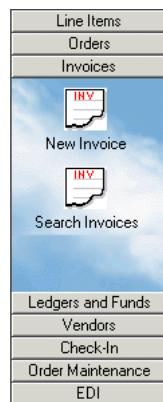
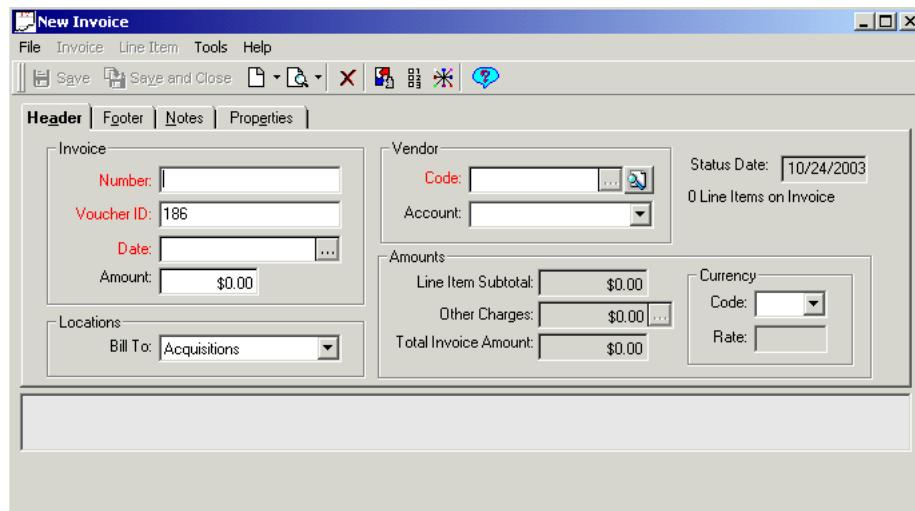
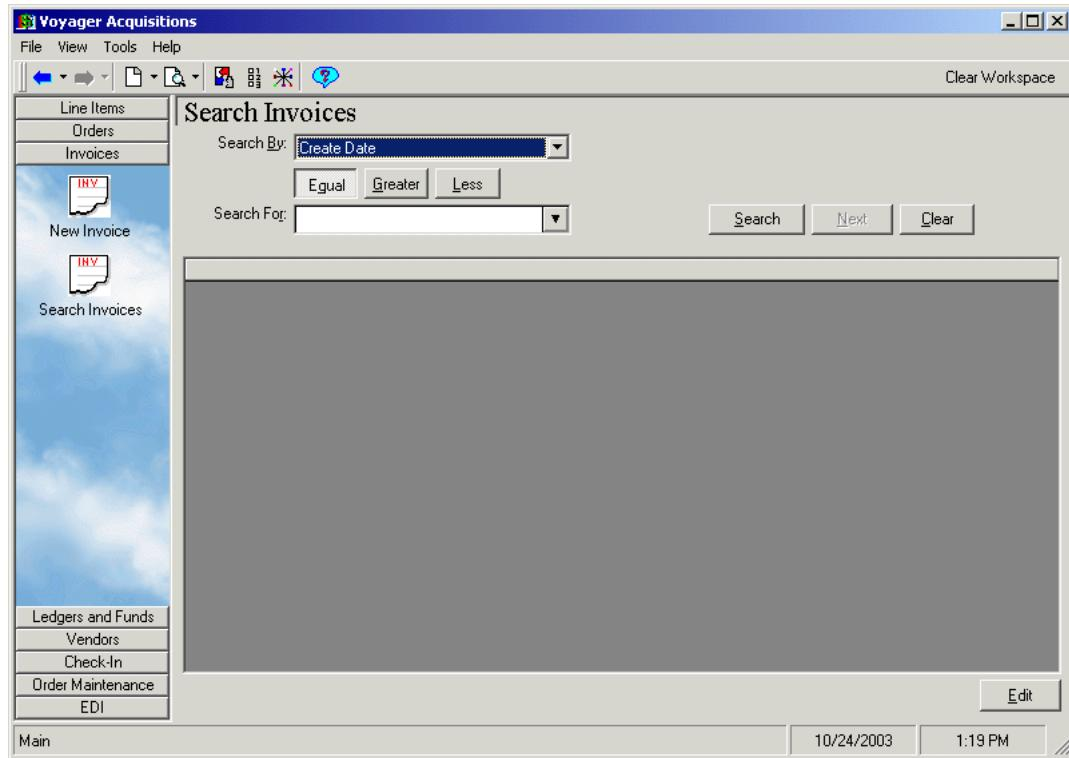

Figure 12-1. Invoice Buttons
Figure 12-2. New Invoices dialog box
Figure 12-3. Search Invoices workspace
- **New Invoice** button (Figure 12-1) to access the **New Invoice** dialog box (Figure 12-2).
- **Search Invoices** button (Figure 12-1) to access the **Search Invoices** workspace (see Figure 12-3).